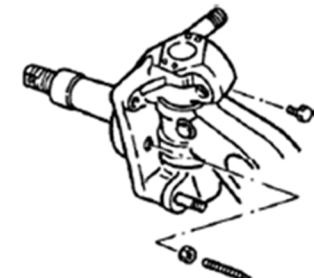

Figure 3-31.
- 8) Installing limited bolts (Figure 3-31).